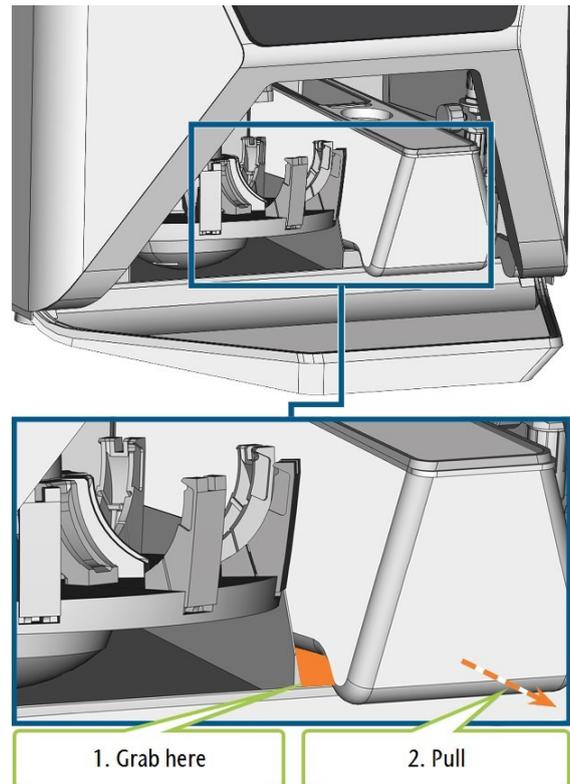

FIG. 35 – REMOVING THE COOLING LIQUID TANK FROM THE MULTI-PURPOSE COMPARTMENT
5. Pull the cooling liquid tank out of the compartment in the direction indicated by the arrow (□ Fig. 35 – see below).